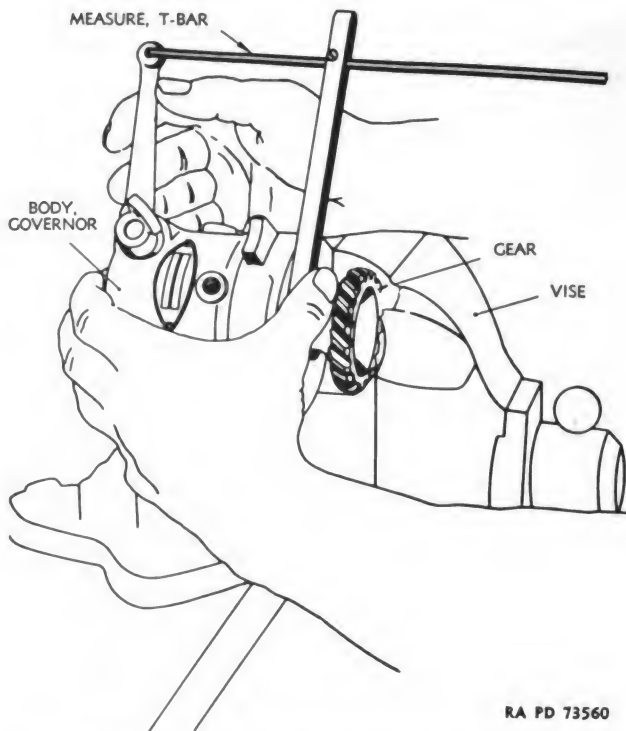

Figure 117 – Measuring Lever Distance from Body Flange
(11) Attach flange to body with the four fillister-head screws. Use a new gasket between flange and body.
(12) To install lever, back up the rocker shaft with a punch held in a vise (fig. 116), and tap on. Install lever with throttle rod end pointing toward the gear. Then, rotate so that the yoke in the body contacts the thrust bearing with the weights closed. Continue rotating in the same direction until the end of the lever is $3 \frac{3}{16}$ inches from the body flange (fig. 117).
(13) Set welch plug in position on governor body at end of rocker arm hole. Tap into place.
(14) Install adjusting lever in position on governor body with shoulder stud. Install spring by hooking one end through eye of throttle lever eye bolt and the other end through hole in adjusting lever.